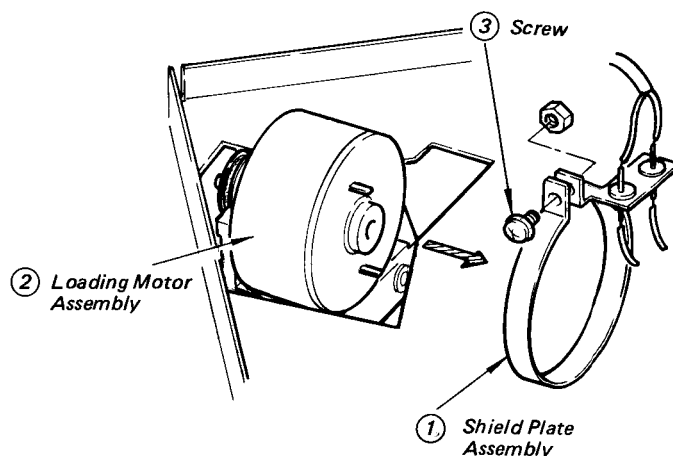

Fig. 5-23 Shielding Plate Assembly Removal
7-5. Replacing the loading drive assembly (see Figs. 5-23, 5-24 and 5-25)
2. Unsolder the lead wires of the shield plate assembly ① at the terminals on the loading motor assembly ②.
3. Loosen the screw ③ and take out the shielding plate assembly ① away from the motor (see Fig. 5-23).